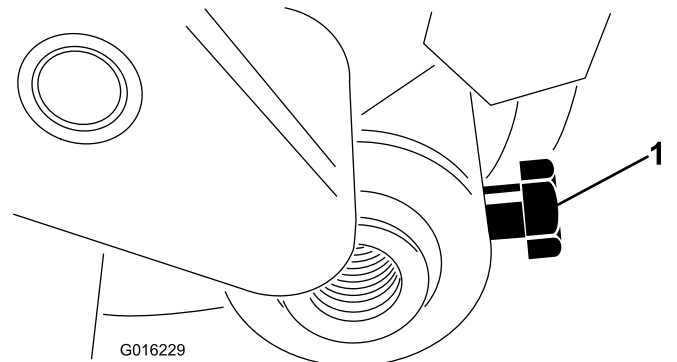

Figure 14
30. Insert the roller shaft into the right adjuster arm and loosely secure it with the bolt (Figure 14).
38. Center the roller between the adjuster arms and tighten the mounting bolts (Figure 14).